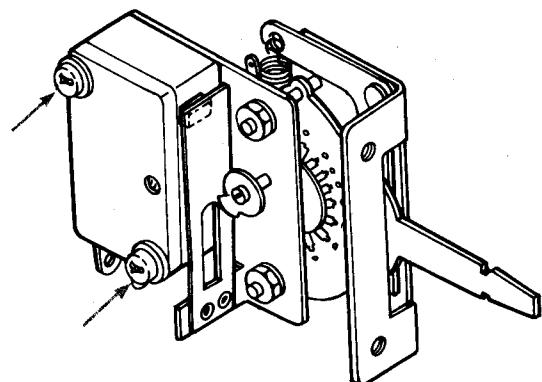

Fig. 2-7. Microswitch Replacement
- Note: The microswitch can be removed from the toggle bracket by loosening two Phillips-Head Screws. See Fig 2-7.